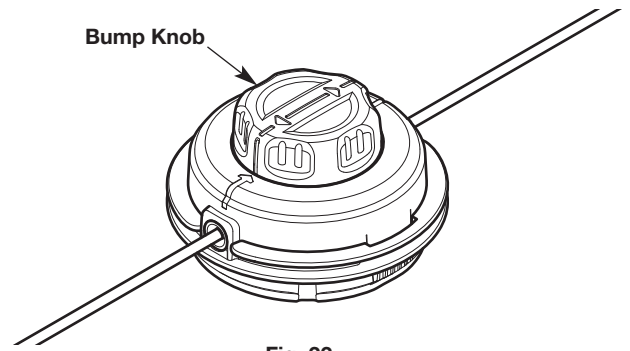

Fig. 22
- Turn the bump knob to wind the line until about 5 inches (12.5 cm) protrude from each side of the cutting head (Fig. 22).